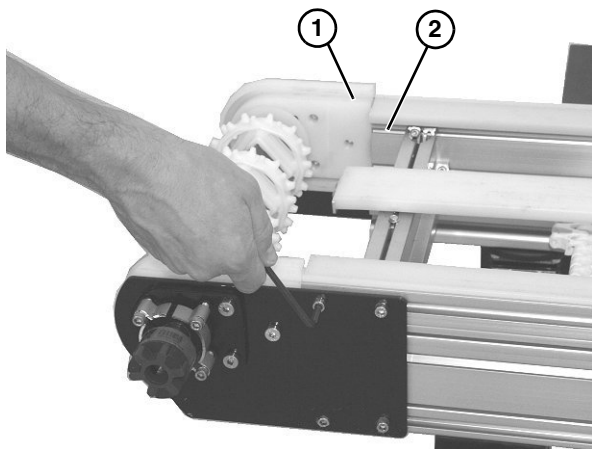

Figure 47
When reinstalling the drive spindle tail assembly, the terminal assembly (**Figure 47, item 1**) should mate flush with the conveyor frame (**Figure 47, item 2**).